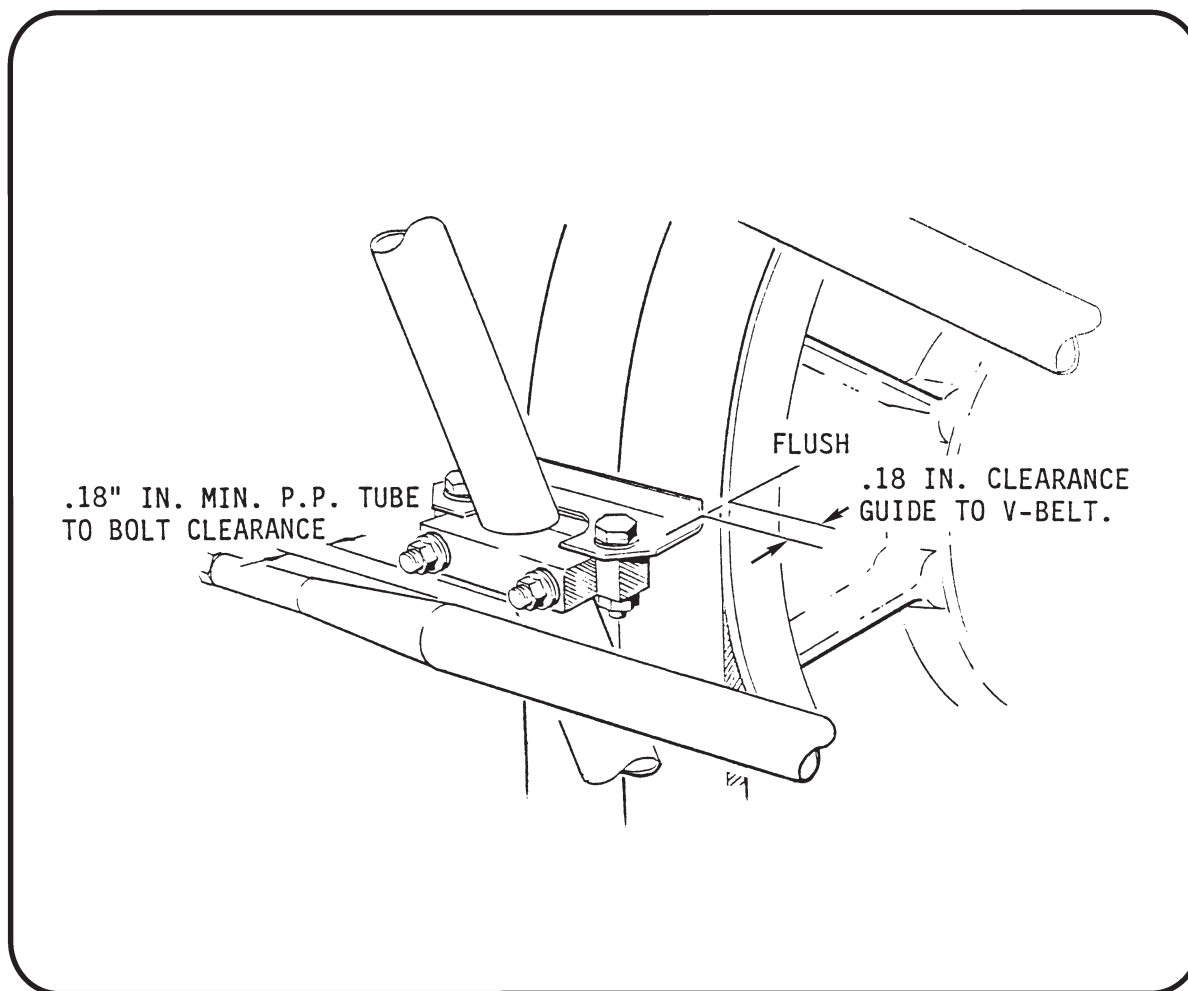

FIGURE 7-8A V-BELT GUIDE
15. Position V-belt guide to maintain clearance specified in Figure 7-8A. Standard torque attach hardware per § 23-32.